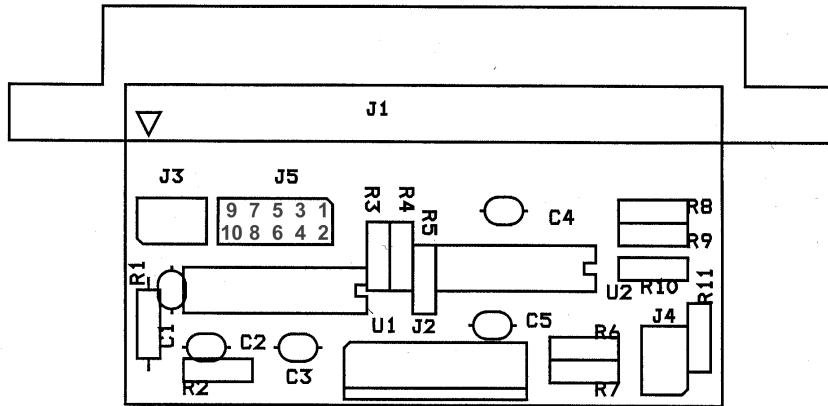

FIGURE 2. ADAPTER ASSEMBLY A11, COMPONENT LOCATION
2.4 ADAPTER ASSEMBLY A11 REPLACEMENT PROCEDURE (SEE FIGURE 2)